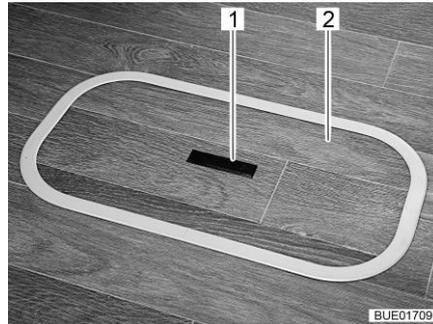
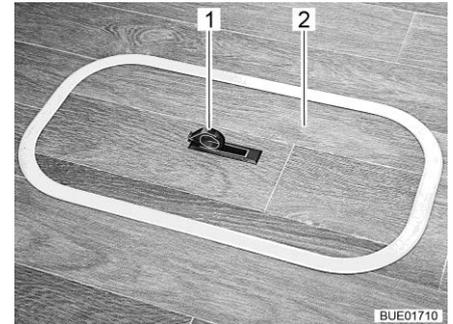

Fig. 87 Floor compartment cover
Fig. 88 Floor compartment cover
- Push one side of the grip plate (Fig. 87,1) downwards. The handle (Fig. 88,1) swivels upwards.
- Remove the cover (Fig. 87,2 or Fig. 88,2) upwards.